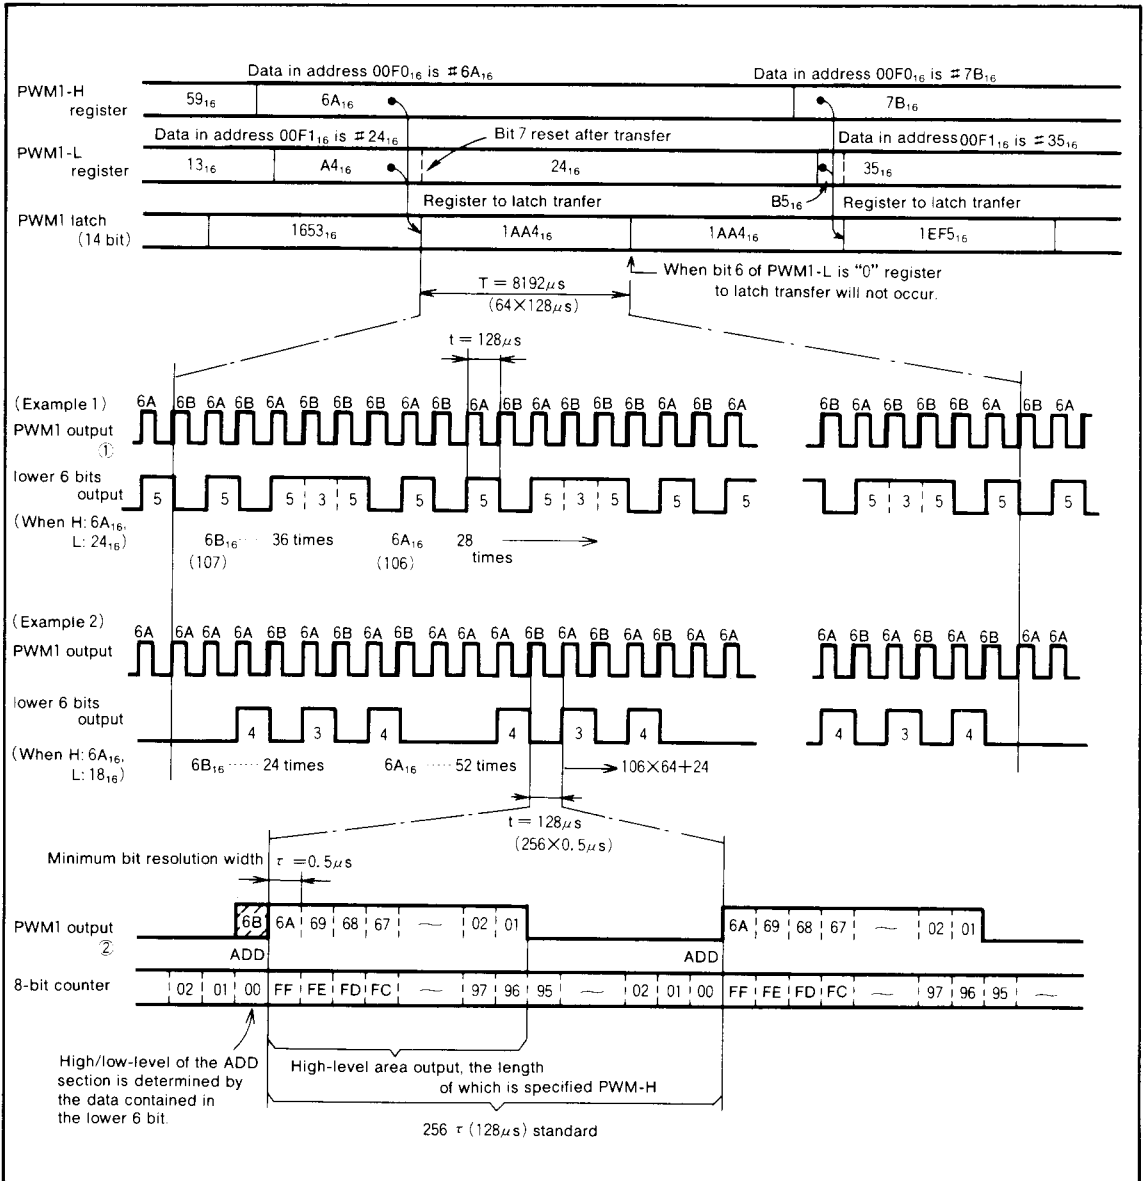

Fig.11 14-bit PWM timing diagram
The timing diagram of the 14-bit PWM1 is shown in Figure 11. The 14-bit PWM divides the data within the PWM latch into the lower 6 bits and higher 8 bits.
A high-level area within a length N times τ is output every short area of $t=256\tau=128\mu\text{s}$ as determined by data N of the higher 8 bits. (Refer to PWM output ② in the lower part of Figure 11.)